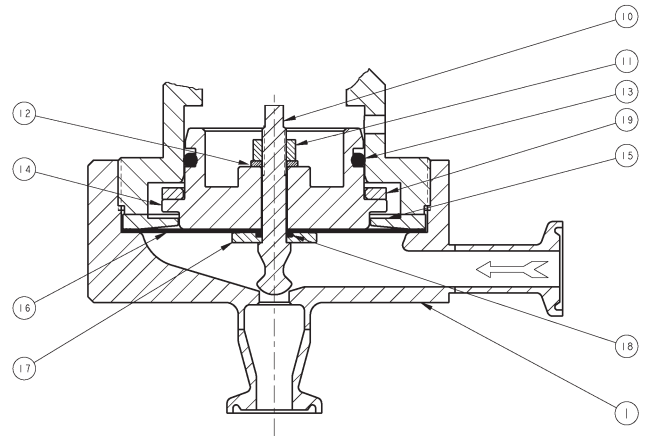

FIGURE 1: Diaphragm & Plug Subassembly
3. Refer to Figures 1 and 2 for the basic regulator, item number reference ().
2. Relax compression on spring (8) by turning the knob (3) CCW until removed from spring chamber (2). Not necessary to rotate nut (5). Remove name plate.
4. Remove spring chamber, (2) ball (6), spring button (7), range spring (8) and spacer (19).
5. Remove the diaphragm sub-assembly. See Figure 1.
6. Secure the O.D. of the pressure plate in soft jawed vise. With a wrench, secure the flats on the plug (10). With another wrench, rotate the hex nut (11) CCW and remove nut and lock washer (12). **NOTE:** Plug (10), travel stop (15), diaphragm (16), pusher plate (17)